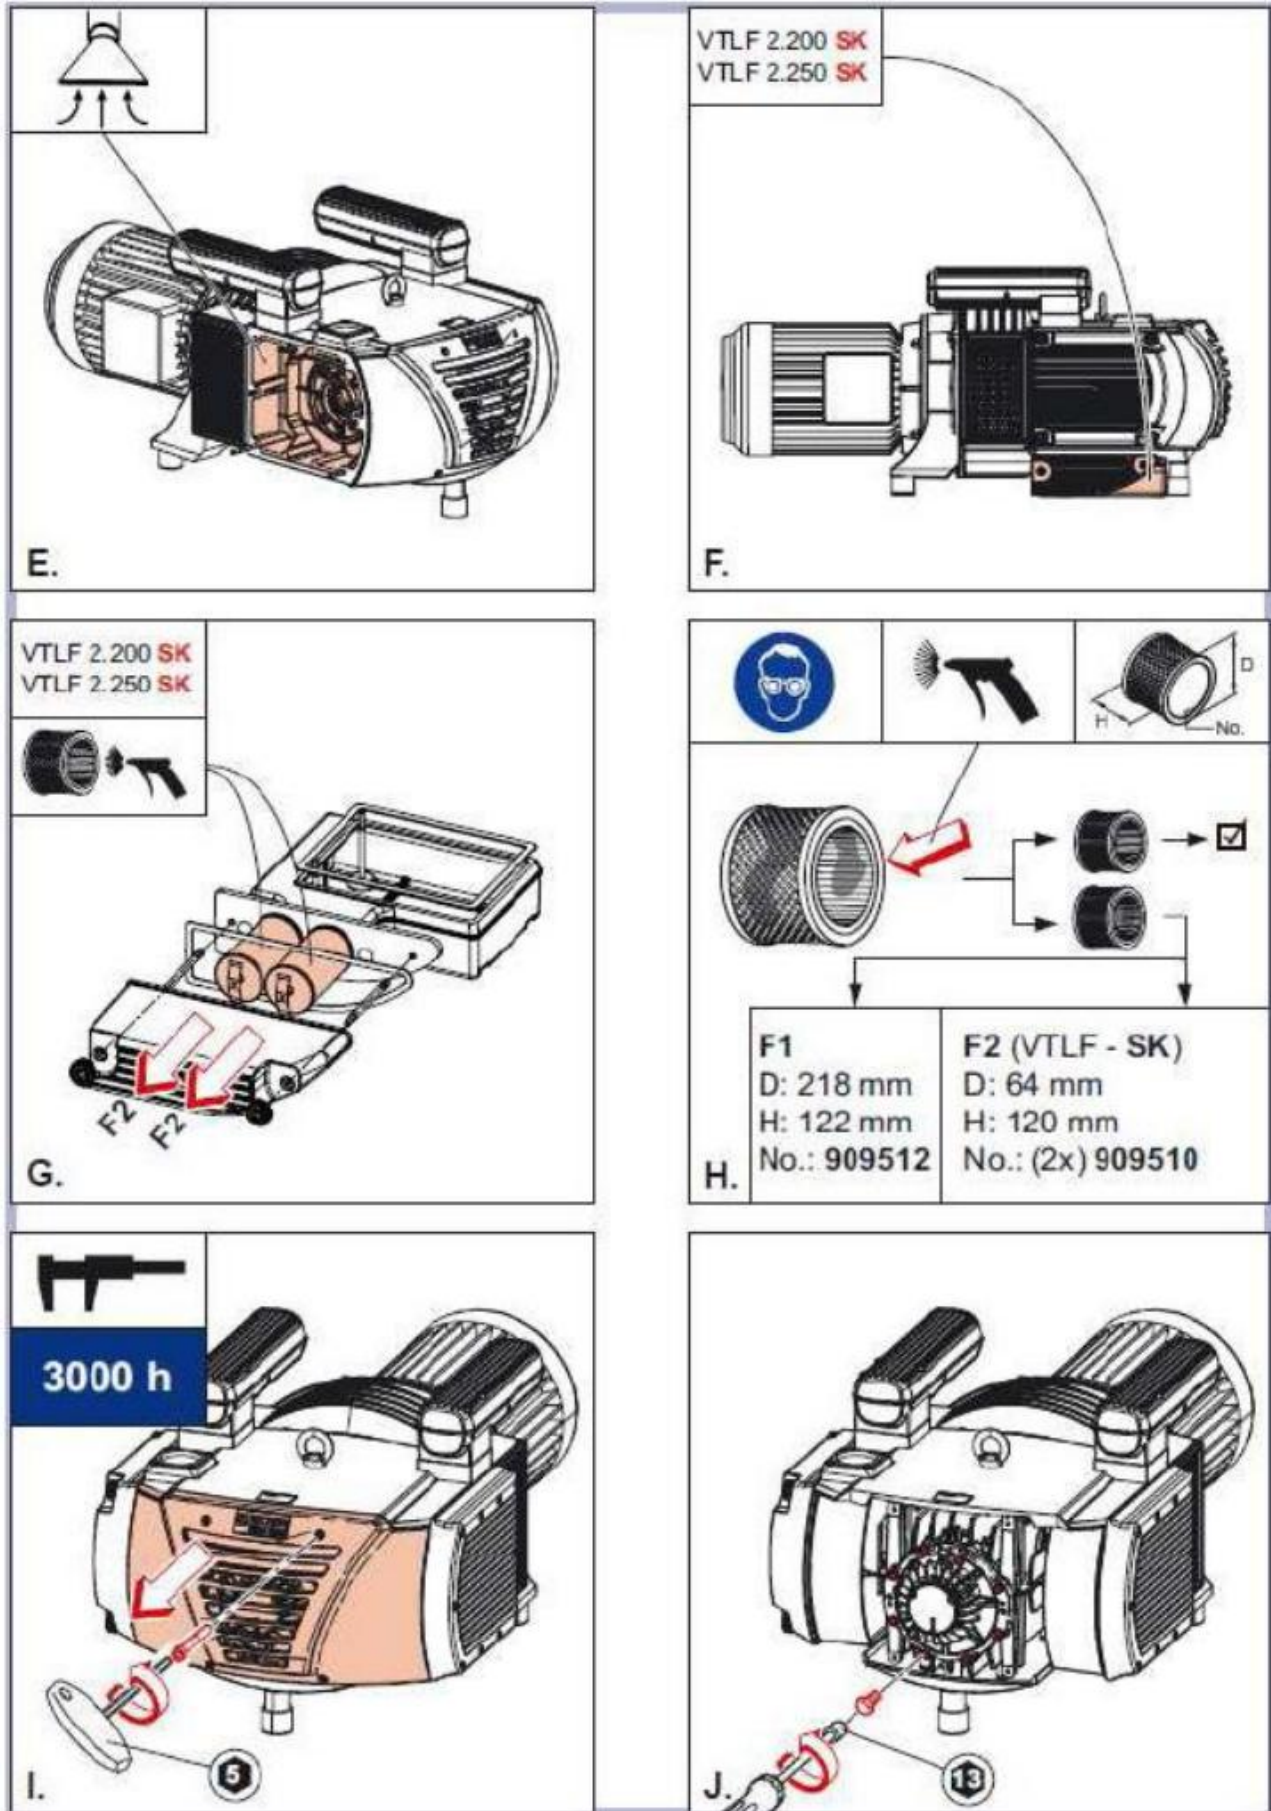

Fig.7.4
- d. After the vacuum pump runs for 3000 h, it should remove the blind flange and check the width of the blades; if the width is less than 41mm, the blade shall be replaced; the dirt around the blade shall be cleaned, as shown in Fig7.4 and 7.5. (I), (J), (K), (L), (M), (N).